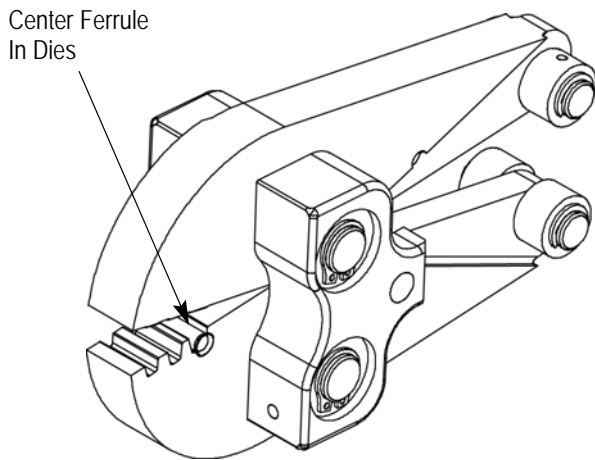

Figure 2
2. Open crimping jaws by squeezing the rollers together simultaneously; then place the ferrule into the center of the appropriate chamber, as shown in Figure 2. Use the correct crimp chamber for the specific wire size.